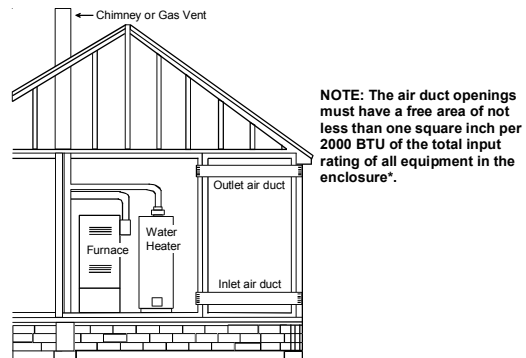

Figure A.9.3.3.1(2) All Combustion Air From Outdoors through Horizontal Ducts.
9.3.3.2* One Permanent Opening Method. One permanent opening, commencing within 12 in. (300 mm) of the top of the enclosure, shall be provided. The appliance shall have clearances of at least 1 in. (25 mm) from the sides and back and 6 in. (150 mm) from the front of the appliance. The opening shall directly communicate to the outdoors or shall communicate through a vertical or horizontal duct to the outdoors or spaces that freely communicate with the outdoors (see Figure A.9.3.3.2) and shall have a minimum free area of the following: